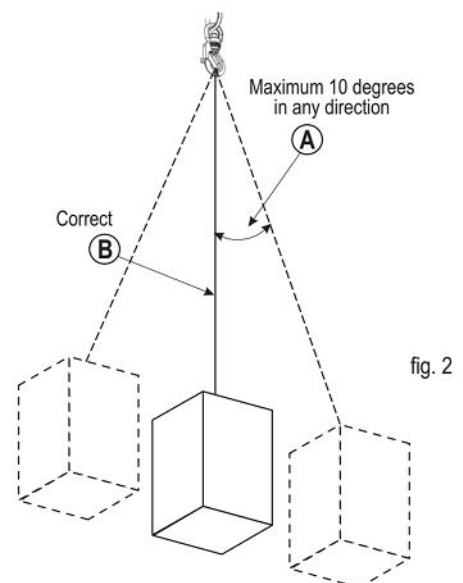

fig. 2
- the hoist is positioned directly above the center of mass of the load to be lifted (see fig. 2);